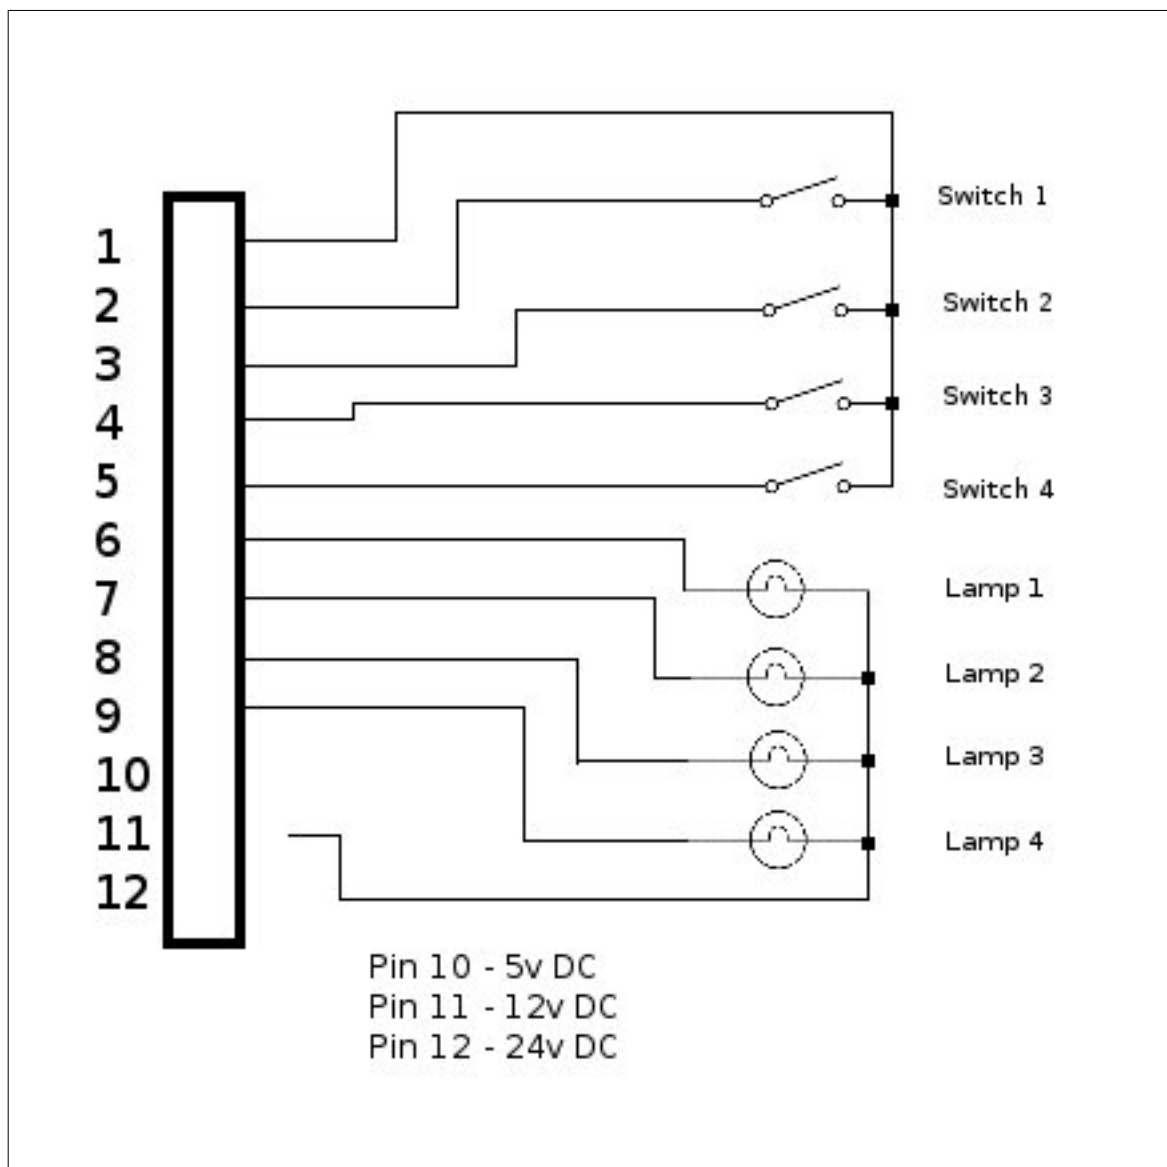

Figure 34
- The *5-8 Button/Lamp interface port (J14)* is used to setup the four lighted push buttons (Figure 34)